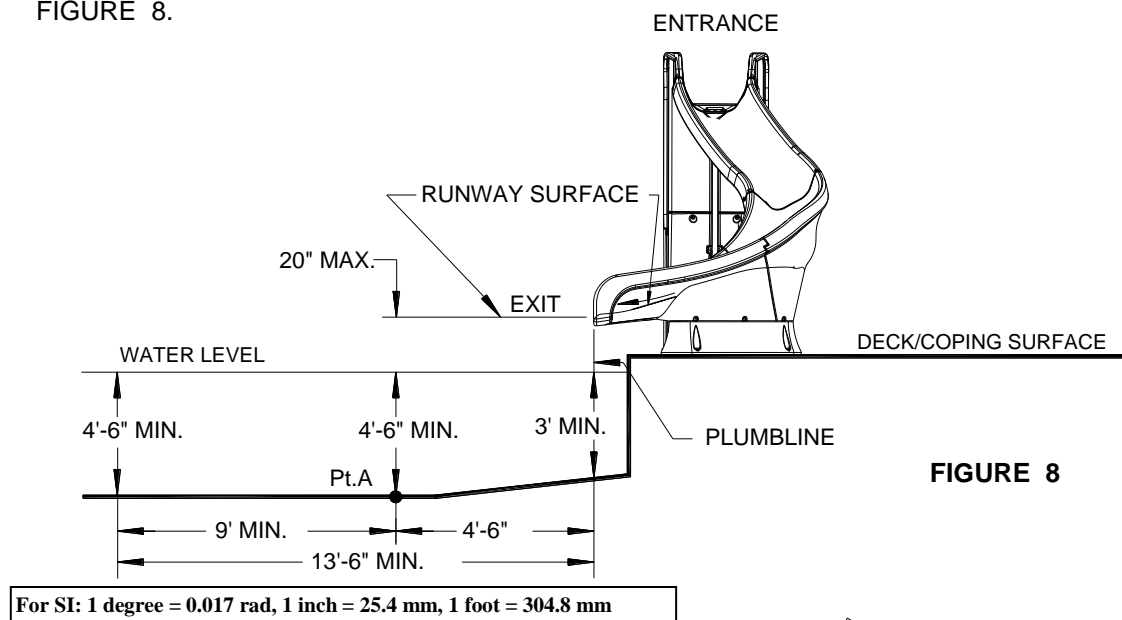

FIGURE 8
- The slide exit runway surface shall not exceed twenty inches (20") (508 mm) above the water surface as shown in FIGURE 8.
- The minimum depth of water below the exit lip of the slide shall be three feet (3') (914mm) and increase to four feet six inches (4'-6") (1371 mm) at Pt. A, which is a distance of four feet six inches (4'-6") (1371 mm) from the exit lip of the slide as shown in FIGURE 8.
- A minimum depth of four feet six inches (4'-6") (1371 mm) shall be maintained at a distance of nine feet (9') (2743 mm) along the extended centerline of the slide from Pt. A. as shown in FIGURE 8.